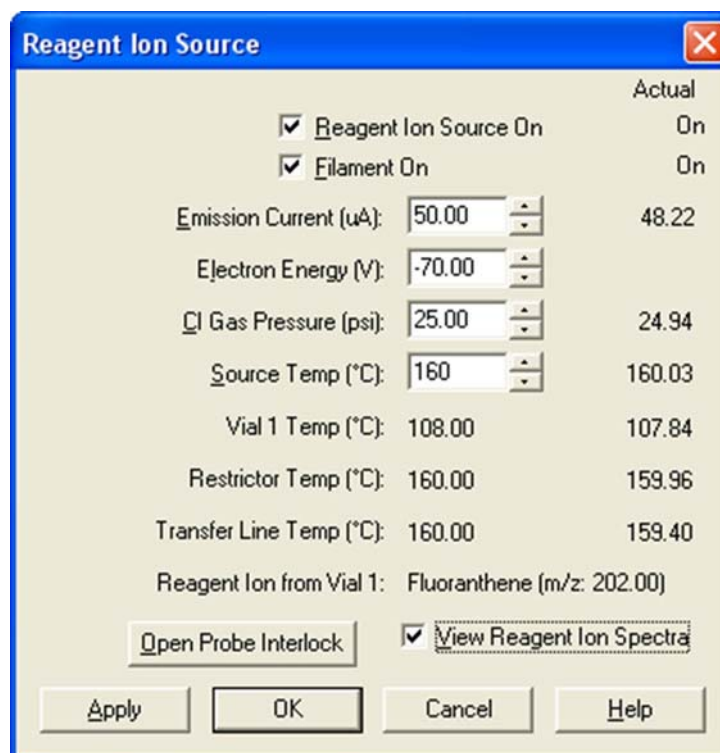

Figure 7-5. Reagent Ion Source dialog box
Use the Reagent Ion Source dialog box to set selected ETD reagent ion source parameters. See Figure 7-5 on page 7-6. The actual parameter values are shown on the right side of the dialog box.
1. Click the **Reagent Ion Source** instrument control icon in the toolbar of the Tune Plus window. (See icon in margin and Figure 7-1 on page 7-2.) The Reagent Ion Source dialog box appears. (See Figure 7-5 on page 7-6.)
2. In the Reagent Ion Source dialog box, click the **Reagent Ion Source On** check box. (See Figure 7-5.) If the reagent vials are not at their target temperature, a message box appears. See Figure 7-9. When the reagent vials reach their target temperature, voltage is applied to the ETD Module ion optics. The filament automatically turns on; the Filament On check box automatically shows a check mark and its actual condition switches from Off to On.
You can also tune the reagent ion source. When the Reagent Ion Source dialog box is open (See Figure 7-5 on page 7-6.), click the **Tune** button in Tune Plus.